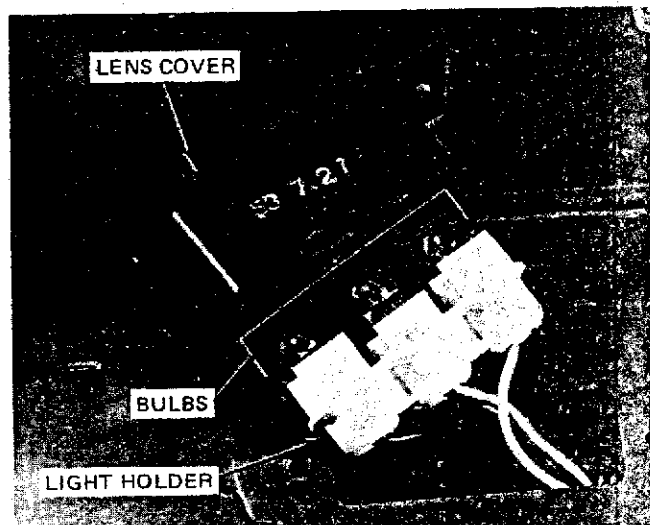

Figure 51 — Instrument Panel Lights
1. Remove the two screws securing the instrument panel lens cover to the instrument panel and pull the light holder up out of the instrument panel, Figure 51.